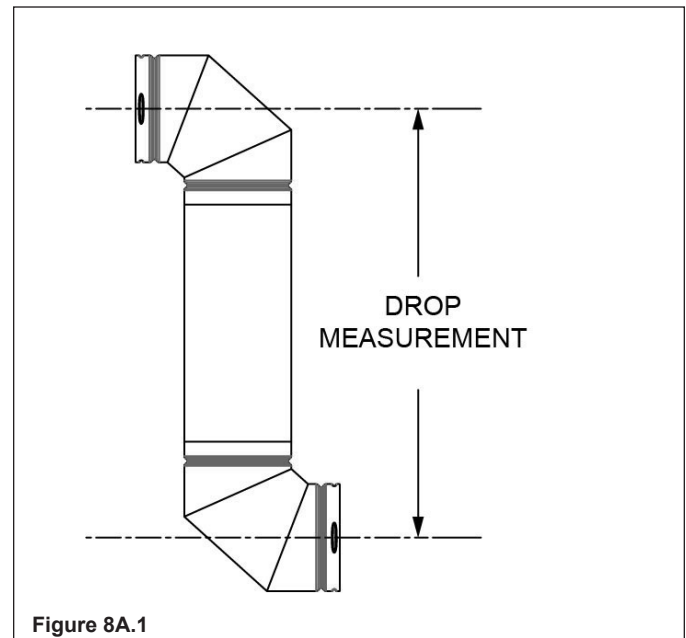

Figure 8A.1
**Vent runs may also contain a downward component.** The downward component may be a maximum of 6 feet plus the distance to the center line of the elbow. See Figure 8A.1.